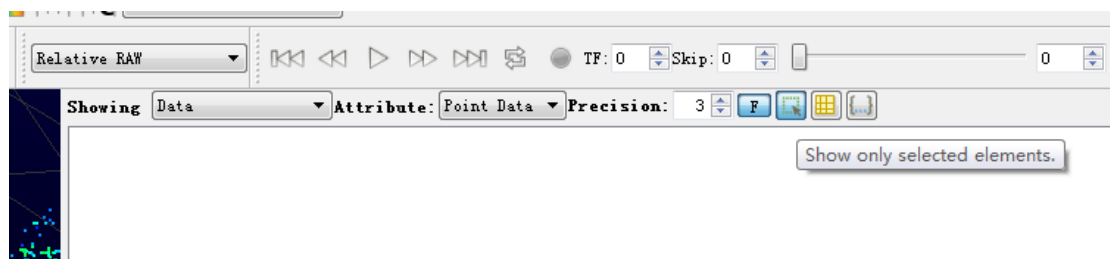

Figure A-18 RSView **show only selected elements** tool
7. Click **Show only selected elements** in the spreadsheet, only the data of selected points will be displayed. If no point is selected, there will be no data shown in table (Fig. A-18).